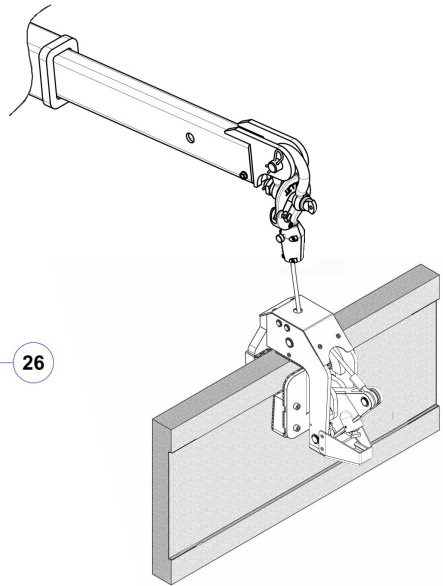

Figure 4b
- Follow the same procedure 1 to 3 as described earlier (see Figure 4b)